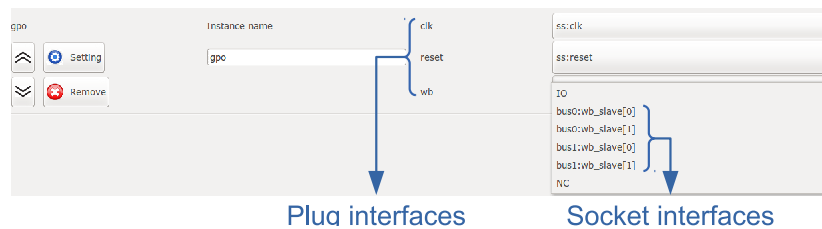

Figure 2.1: GPO IP box snapshot.
1. In processing tile generator only the *plug* interfaces of an IP are shown in the IP box. The user can select the connection interface from the list of all IP cores having the *socket* type of that interface as shown in Figure 2.1.